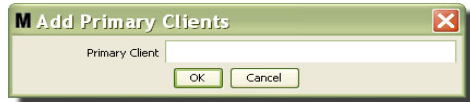

FIG. 80
- In the Add Primary Clients box shown in FIG. 80 enter the name of the Primary Client you are adding. Click OK to close the screen and save the changes. The Primary Client's name can be anything, as long as it's unique in the system and the same name is set in the client PC's local configuration (using Matrix Properties File Editor, page 163, or the Matrix client name property). Its often convenient to use network host names, since the host name will be unique and is generally an easily remembered and typed name, but its not required.